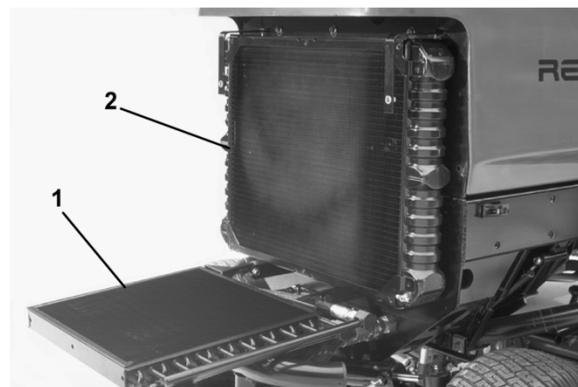

Figure 61
- Unscrew knobs and pivot oil cooler rearward (Figure 61). Clean both sides of oil cooler and radiator area thoroughly with compressed air. Do not use water. Open hood and blow debris out toward back of machine. Pivot oil cooler back into position and tighten knobs.